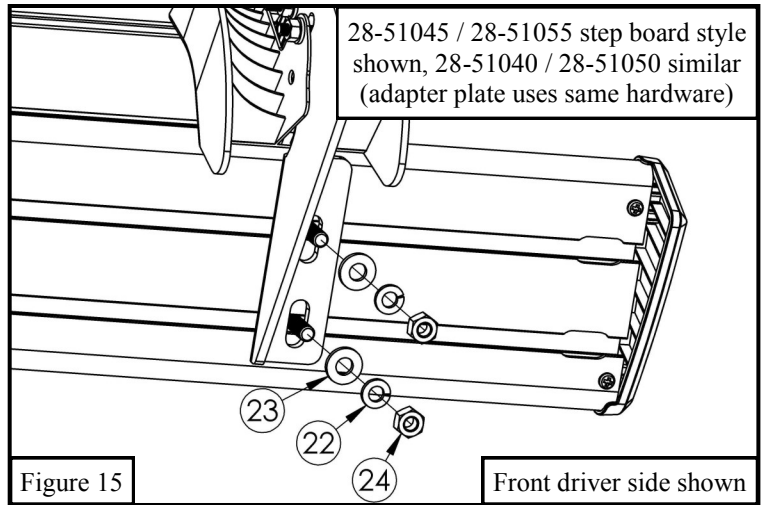

Figure 15
16. Loosely secure the step board onto each mount bracket using (2) M8 hex nuts, (2) M8 split lock washers, and (2) M8 flat washers (Items 22 - 24). See **Figure 15**.